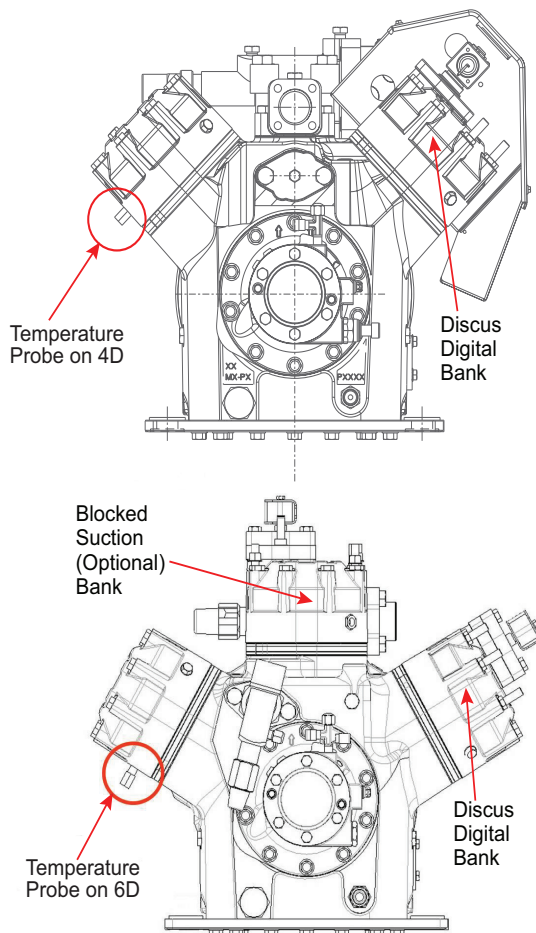

Figure 7 – The temperature probe should be installed on the far left bank of the 4D/6D.
20. Discharge temperature probe should be installed on far left hand bank when facing the oil pump end of the compressor. Tighten temperature probe and discharge pressure pickup connections firmly and recheck torque on all the bolts. See **Figure 7**.